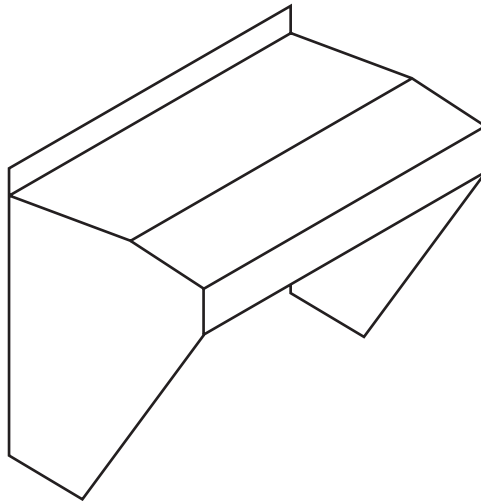

Fig. 5
- 4 The outline of a cover to protect an electric socket is shown in Fig. 5. It is made from sheet metal and is to be fixed to the outside of a house.